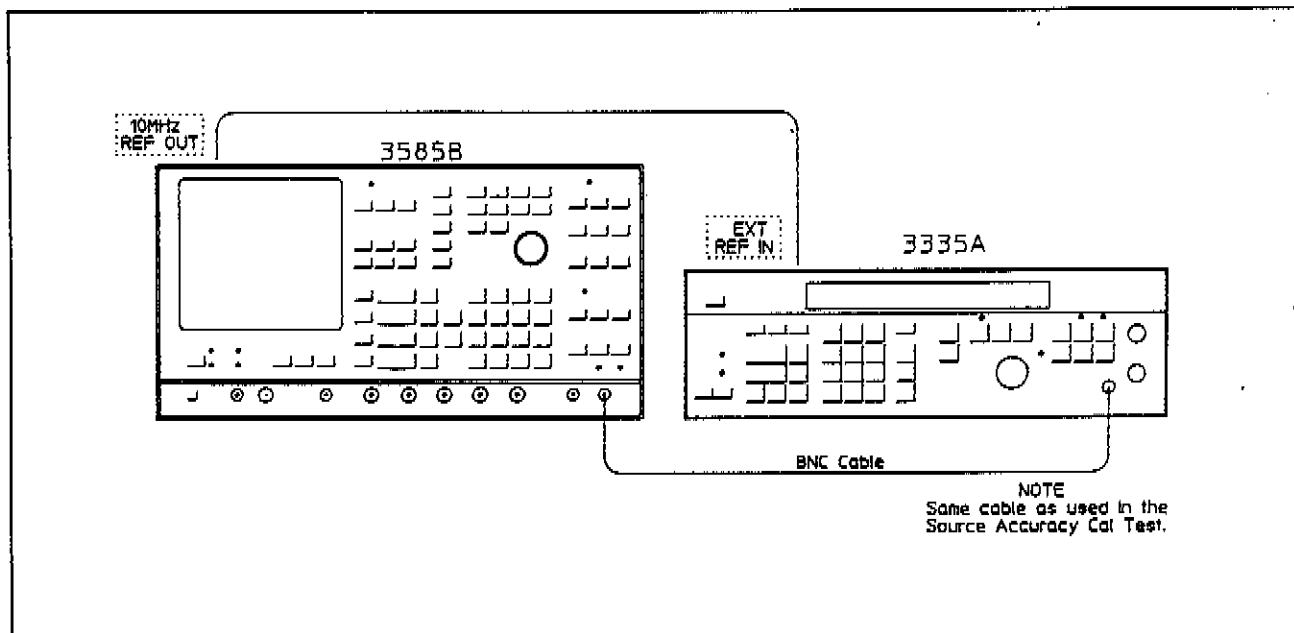

Figure 4-8b.
- i. Connect the 3335A output to the 3585B 50Ω input as shown in Figure 4-8b.